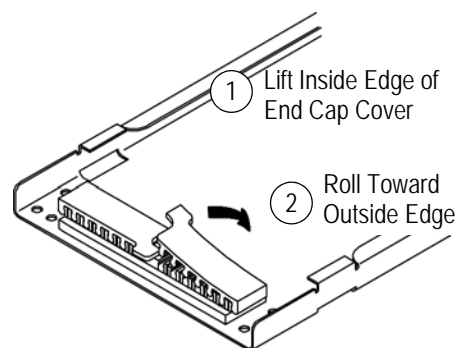

Figure 3
2. Remove the end cap covers from the end caps. Lift the inside edge of the end cap cover, and roll the cover to the outside edge. See Figure 3.